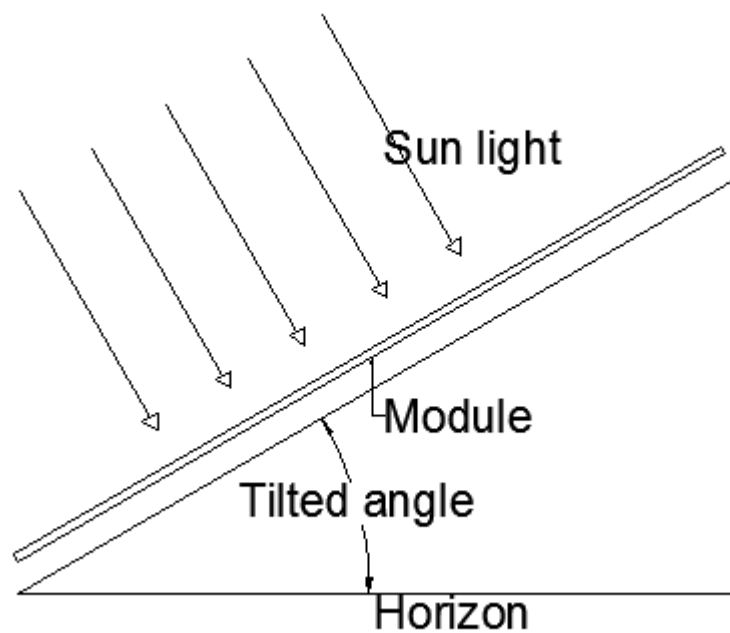

Fig1.Optimum angle
- 2) Double glass modules from Almaden could produce optimum power when they are installed directly towards the sun. If they were installed with a fixed structure, we should adjust angle of modules to angle used in winter in order to get the maximum power output for each year. In most cases, PV modules optimum angle are equal to the location's latitude. Please check the Fig 1.